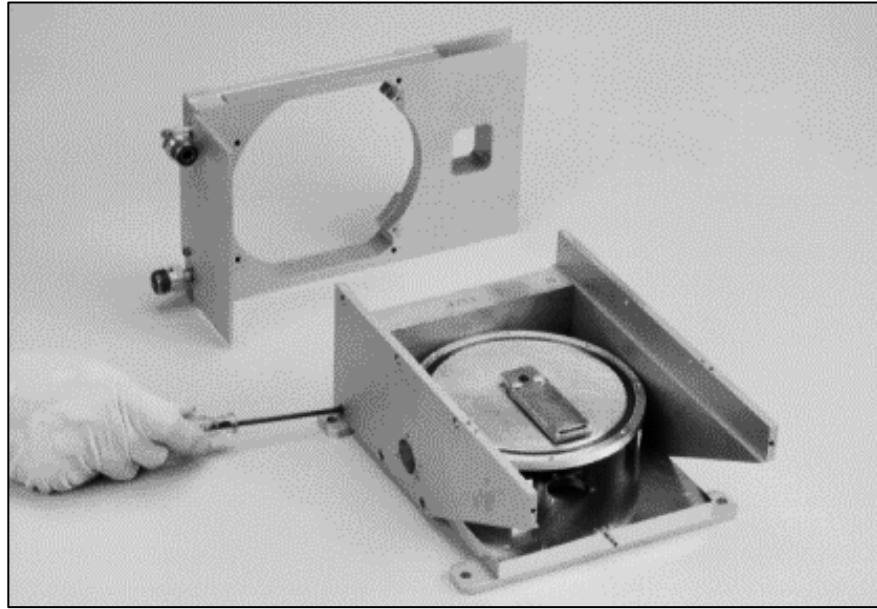

Figure 5-8. Removing the Screws that Secure the Coil Housing to the Pole Pieces
Step 11: Remove the screws that secure the left-hand pole piece to the coil housing and loosen the screws that secure that pole piece to the source base plate (see Figure 5-8).